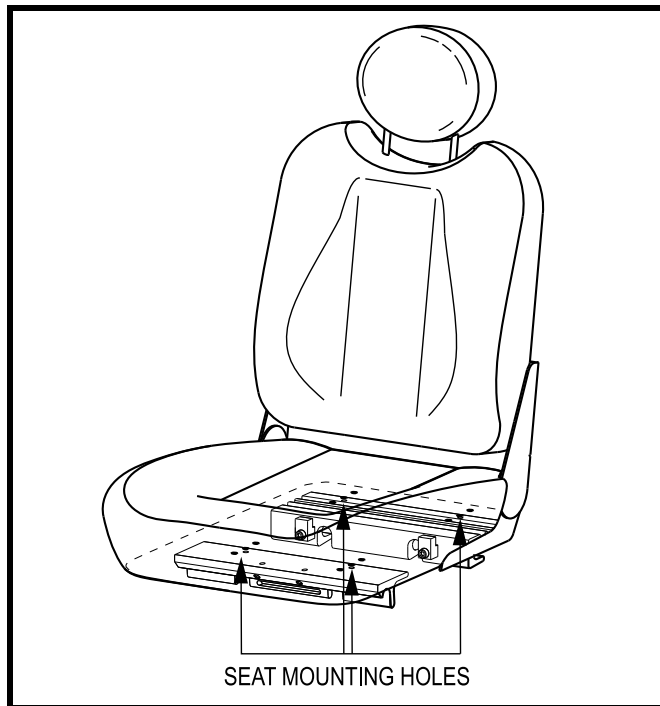

Figure 16. Seat Position Adjustment
4. Reposition the extrusions on a different set of mounting holes. You must move both extrusions the same number of holes either forward or rearward. See figure 16.